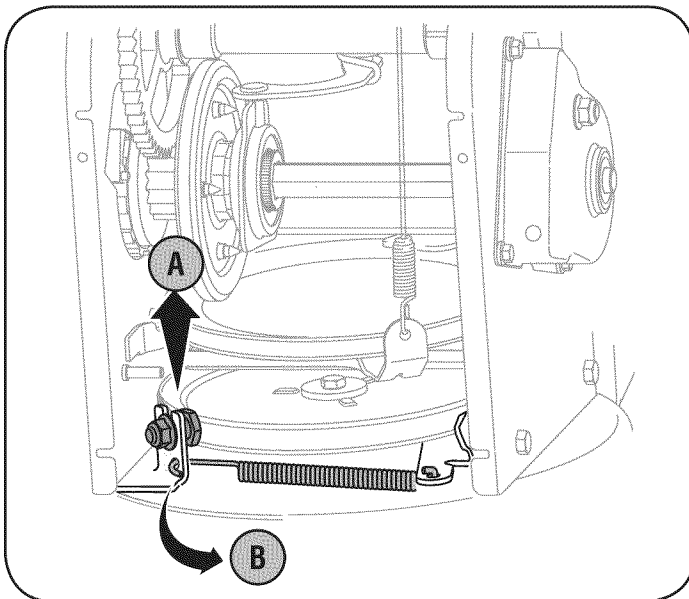

Figure 30
6. Remove the belt as follows. Refer to Figure 30.